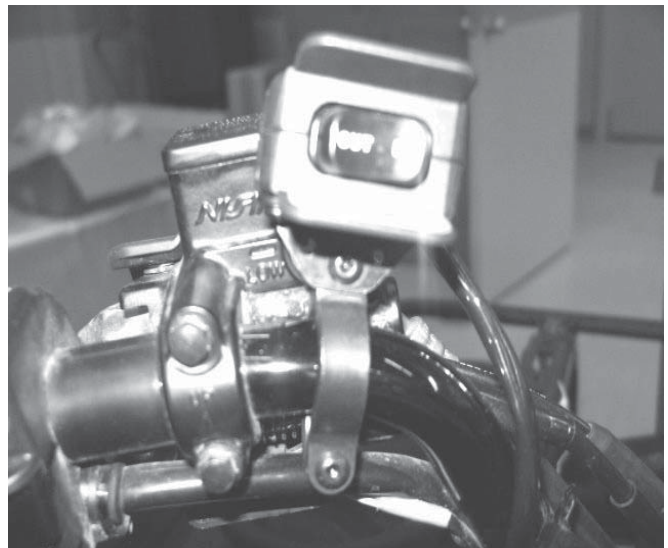

Figure 3
3. Install the winch rocker switch to the handlebar using the hardware and bracket supplied with the switch. Route the wiring beside the left switch harness using the stock cable ties to secure it.(figure 3 & 4)